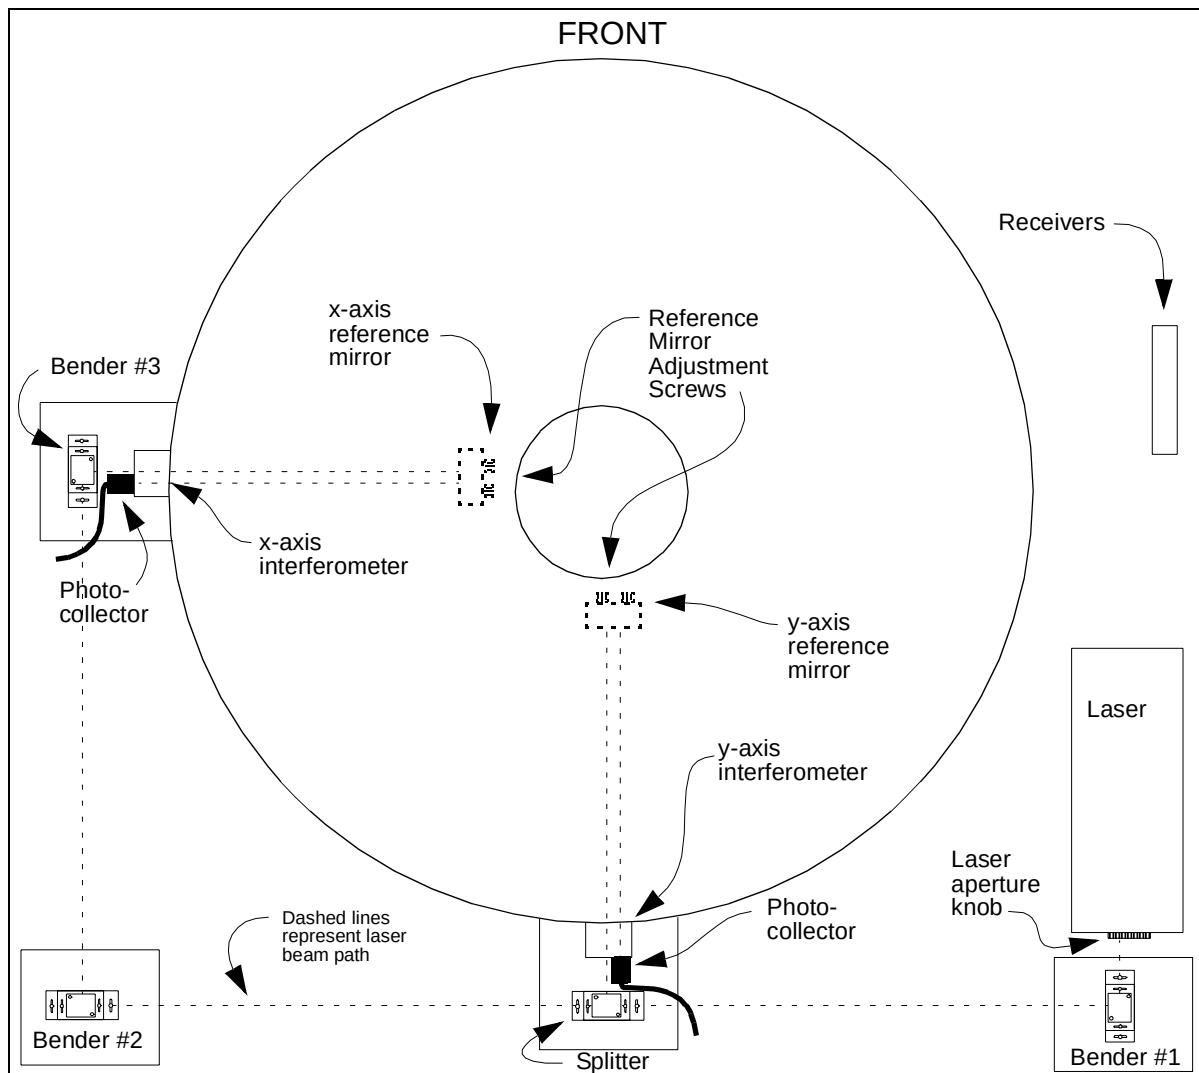
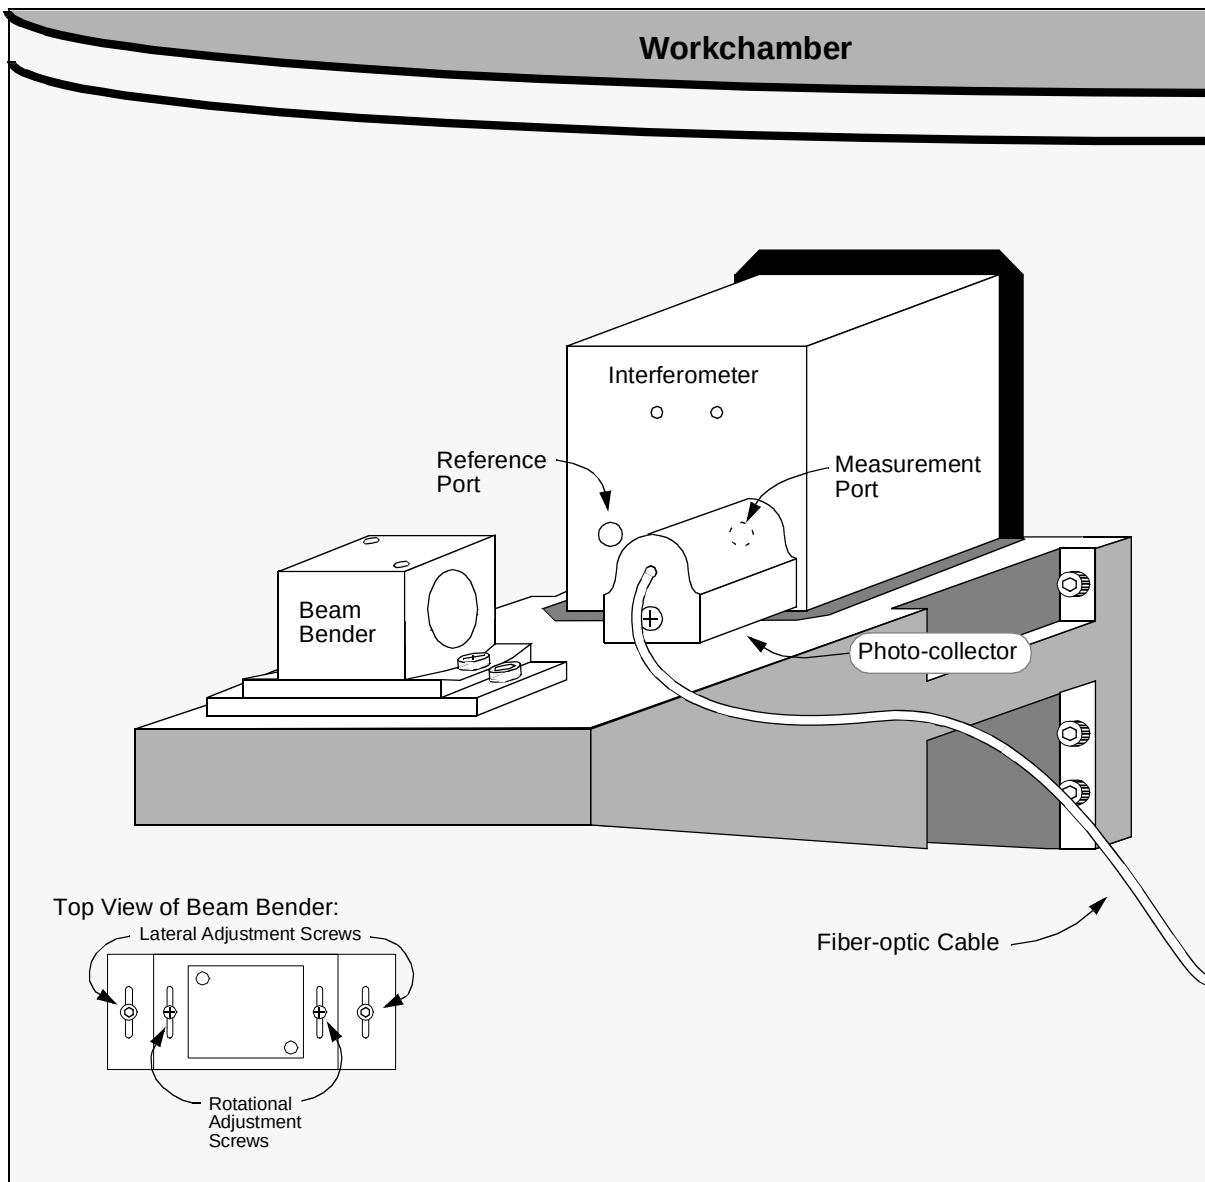

Figure 5. Top View of the Workchamber and Laser IF System (Lid Closed)
Figure 6. Interferometer, Photo-collector, and Beam Bender
and adjust the laser position until the beam is centered on the laser target (and therefore the input to beam bender #1). If necessary, loosen the two socket head screws on bender #1's mounting plate to adjust the lateral position of bender #1 (so that the beam is centered on the input to bender #1), then tighten them again. Figure 6 provides detail on the location of the beam bender lateral and rotational adjustment screws. Tighten the laser mounting bolts. Check the beam alignment again to make sure that nothing has moved.
- 4-10.** Adjust beam bender #3 so that the output of bender #3 is centered on the reference port of the x-axis interferometer (see Figure 6).
- 4-12.** Place a piece of white paper or Scotch tape over the x-axis interferometer measurement port (see Figure 6). Adjust beam bender #3 so that the beam reflected off the stage mirror is centered on the measurement port and is as bright as possible. If no red glow is visible at the measurement port, it may be necessary to adjust the x-axis reference mirror (see Figure 5).